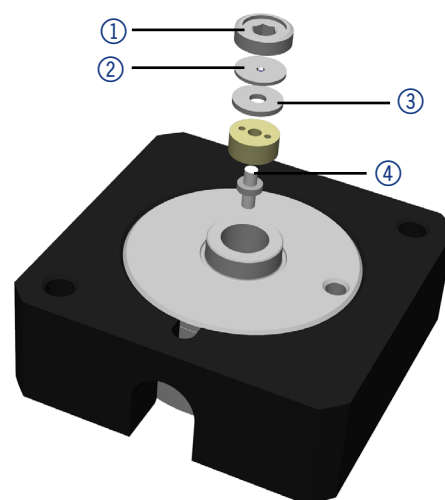

Fig. 4 Shortening the optical path length
1. Unscrew the knurled-head screws ③ of the cover plate ④. Hold the flow cell securely with your hand during this procedure.
2. Pull out the slide with the flow cell ⑤ towards the front.
4. Position the new flow cell on top of the slide. Keep holding the flow cell. Because of the small, drilled hole on the flow cell (see figure 4), the cell fits to the detector only when oriented correctly.
6. Screw the knurled-head screws back into the cover plate ④ and tighten.
7. Connect the incoming and outgoing capillaries at the inlet ① and outlet ② of the measuring cell.